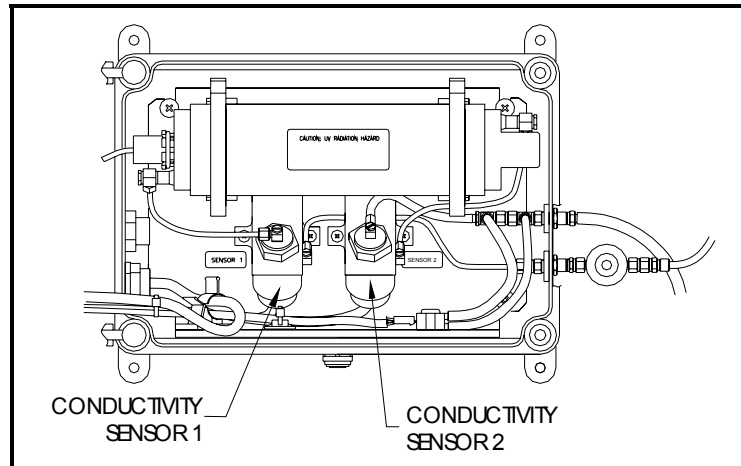
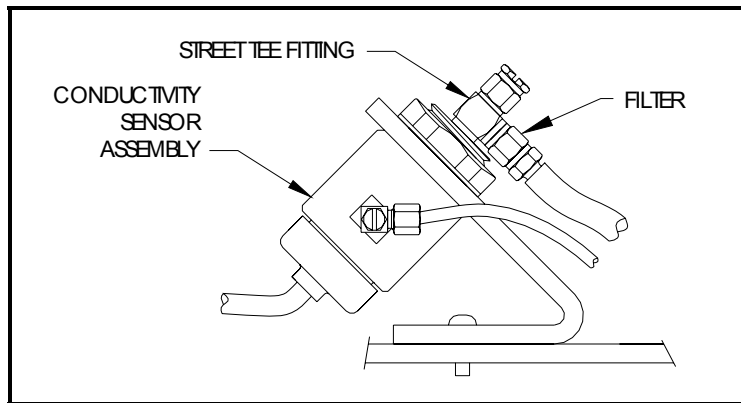

Figure 2. Location of Conductivity Sensor #1 and #2
Figure 3. Location of Filter and Street Tee Fitting at Conductivity Sensor #2
3. The location of Conductivity Sensor 2 is shown in Figure 2. The filter is located on the top of the conductivity sensor and is between the street tee fitting and the barb fitting connected to the tubing. See Figure 3.
4. Locate each conductivity sensor from Figure 2 in Section 2.